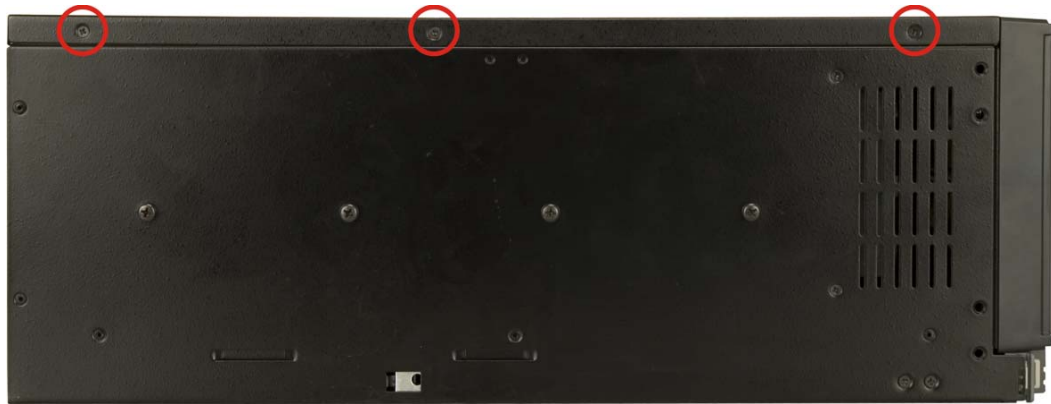

Figure 4-1: Top Cover Left Side Retention Screws (Right Side Similar)
Step 1: Remove the six top cover retention screws (three each on the left and right panels). (See **Figure 4-1**)